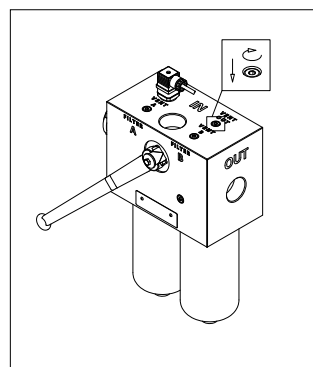

fig. 34
- (Fig. 34) Immediately screw the breather plug in